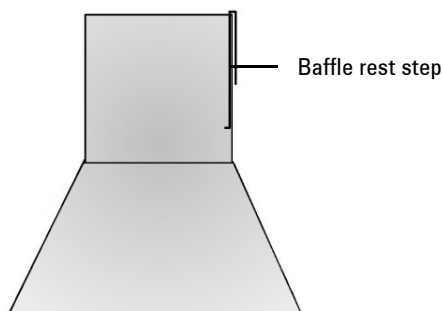

Figure 19. The baffle rest fits over the top edge of the flue
- 2 Fit the baffle rest over the edge of the flue. Refer to Figure 19.